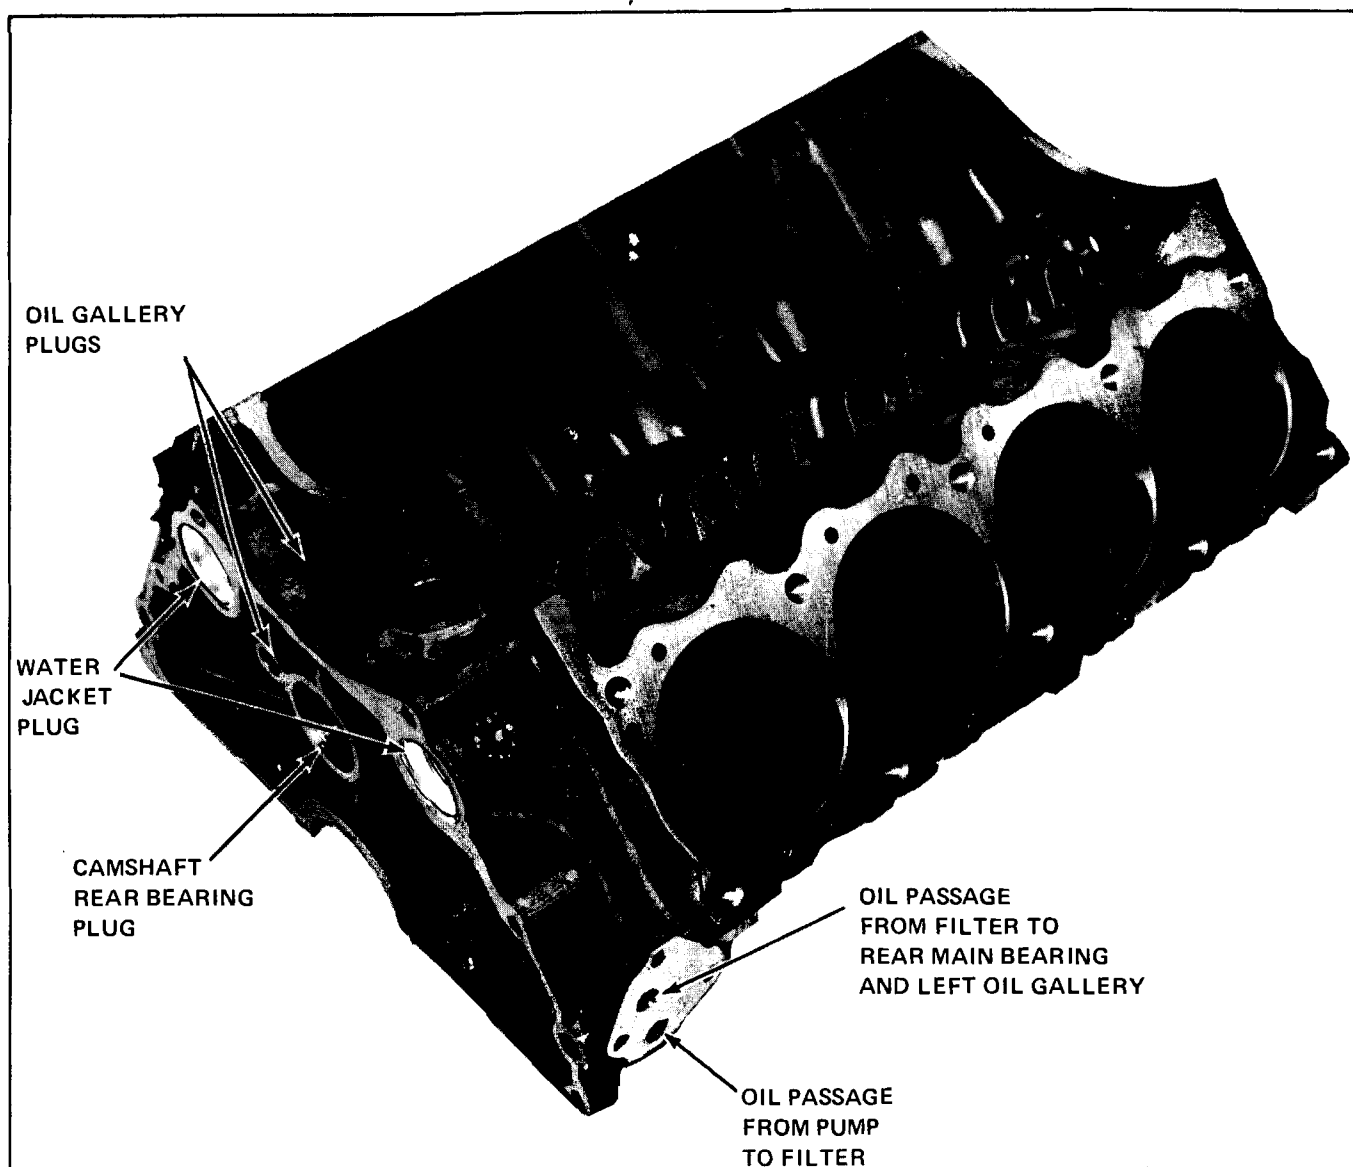

Fig. 6-168 Cylinder Block - View from Right Rear
2. Check passage from filter outlet to rear main bearing by inserting wire in oil filter outlet passage and using pen light to see that wire is visible in passage to rear main bearing (Fig. 6-168).
6. Check oil passages to right bank lifter bosses. Use rubber hose to blow smoke in passage from front main bearing to right main oil gallery while observing for smoke passing out passages from right gallery to lifter bosses (Fig. 6-168).